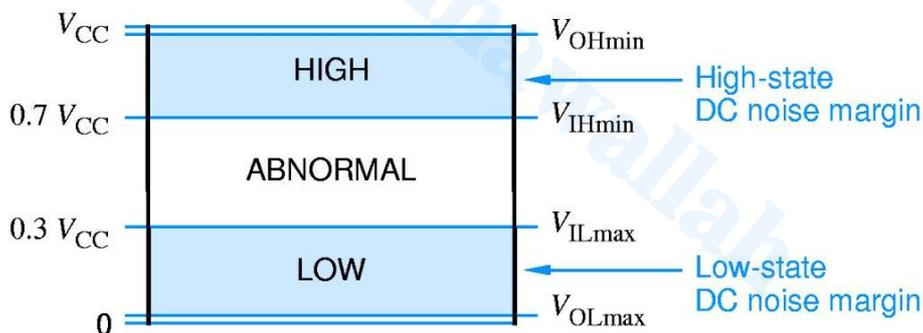
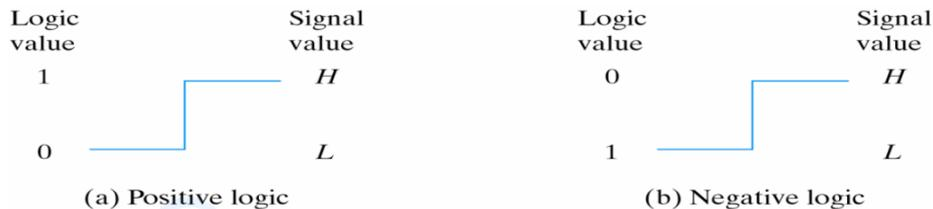

Figure 2.1 Logic levels and noise margins for CMOS devices
Figure 2.2(a) Positive logic (b) Negative logic
There are different types of logic families like CMOS- Complementary Metal Oxide Semiconductor (lowest power), ECL- emitter coupled logic (fastest one), TTL- transistor transistor logic etc. CMOS based digital circuits have both NMOS and PMOS in equal numbers and consume least power among all other logic families, therefore, CMOS based logics are more popular. As shown in Fig. 2.1, the logic level '0' is considered from  $V_{OL}$  to  $V_{IL}$  and likewise logic '1' is considered from input voltage level  $V_{IH}$  to  $V_{OH}$ . Therefore, actually there is a voltage range for inputs '0' or LOW level and '1' or HIGH level. This range is known as noise margin. There are two types of Noise Margins (NM)- low NM -  $NM_L = V_{IL} - V_{OL}$
As shown in Fig. 2.2, binary variables can exist either logic '0' or '1' state. In digital systems, like processors, these logic states are represented by two distinct current levels or voltage levels as shown in Fig. 2.1. If **high-(voltage or current) level  $H$  is used to represent logic '1' and low level  $L$  is used to represent logic '0'**, this is defined as **positive logic system**. While if **the LOW--(voltage or current) level  $L$  is used to represent logic '1' and high level  $H$  is used to represent logic '0'**, this is defined as **negative logic system**. Fig. 2.2 represents both positive and negative logic systems.